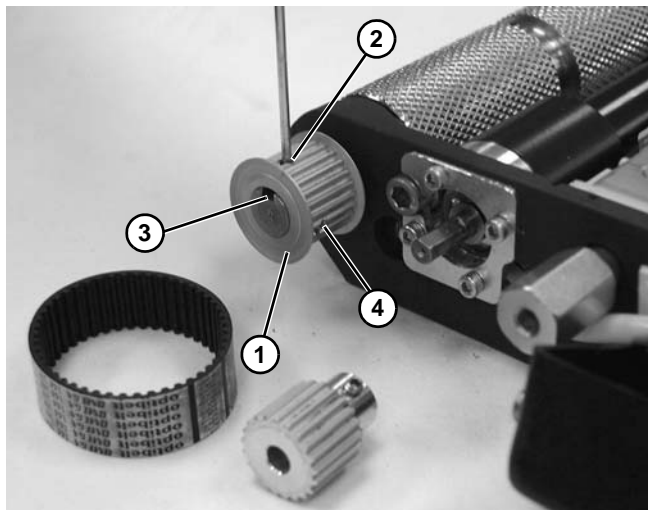

Figure 63
2. Install driven pulley (**Figure 63, item 1**) onto conveyor shaft until flush with spindle end. Line up longer set screw (**Figure 63, item 2**) on pulley over keyway (**Figure 63, item 3**) of shaft. Tighten set screw (**Figure 63, item 2**) and set screw (**Figure 63, item 4**) to 18 in-lb (7 Nm).